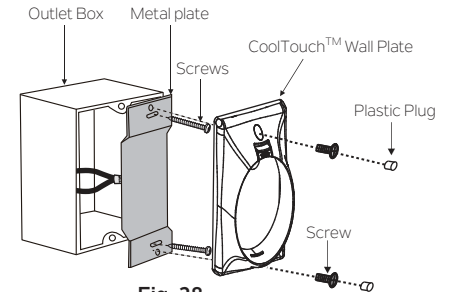

Fig. 28
Step 2. Install the metal plate and the CoolTouch™ wall plate to the existing wall outlet box with 2 screws provided. **(Fig.28)**